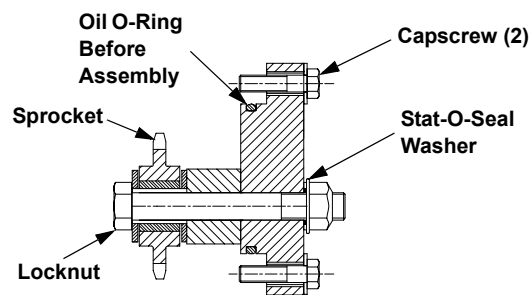

FIGURE 5-8: ECCENTRIC VERNIER - CHAIN IDLER SPROCKET (SELF-ALIGNING SPROCKET) - TYPICAL
1. A typical chain idler sprocket is shown in Figure 5-8: on Page 5-15.